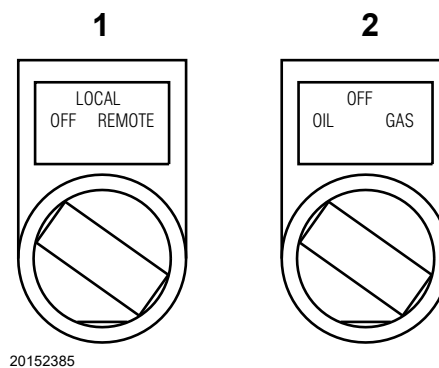

Fig. 48
- 1 using switch 2)(Fig. 48);
By setting switch 1)(Fig. 48), to “remote” you activate the remote fuel selection facility.
Set switch 1)(Fig. 48) to "LOCAL".
Set switch 2)(Fig. 48) to the correct fuel.